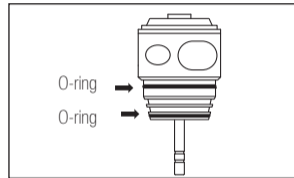

Fig. 10
- Make sure that the two O-rings (Fig.10) are correctly located on the cartridge.